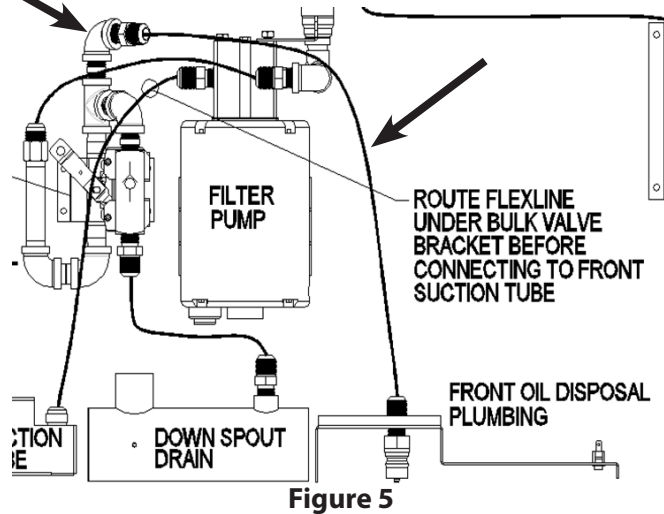

Figure 5
11. Attach the supplied 1/2" x 1-1/2" nipple to T-fitting where fitting was removed in previous step (see Figure 5). Use supplied Loctite on fittings.
12. Attach the supplied 1/2" 90 degree elbow the nipple attached in the previous step (see Figure 5). Use supplied Loctite on fittings.
13. Attach the flexline connector fitting removed in step 10 to the 90 degree elbow attached in the previous step (see Figure 5). Use supplied Loctite on fittings.
14. Attach the flexline from the new front disposal assembly to the flexline connection attached in the previous step (see Figure 5).